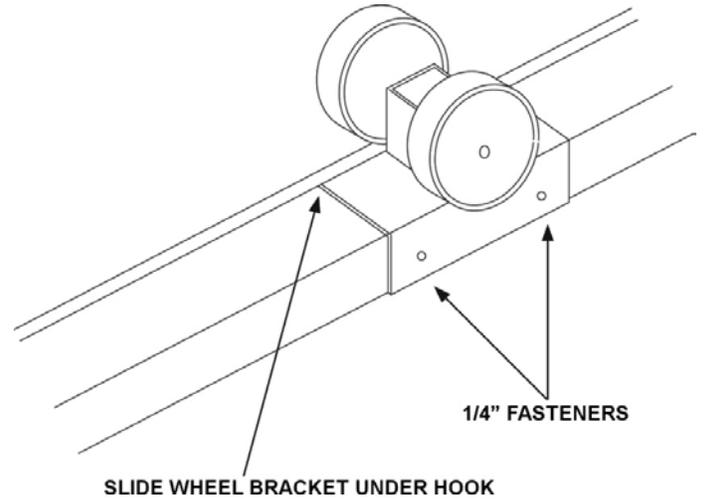

FIG 2
4. Slide the wheel bracket under the hook of ramp's side rail (as shown in FIG. 2).